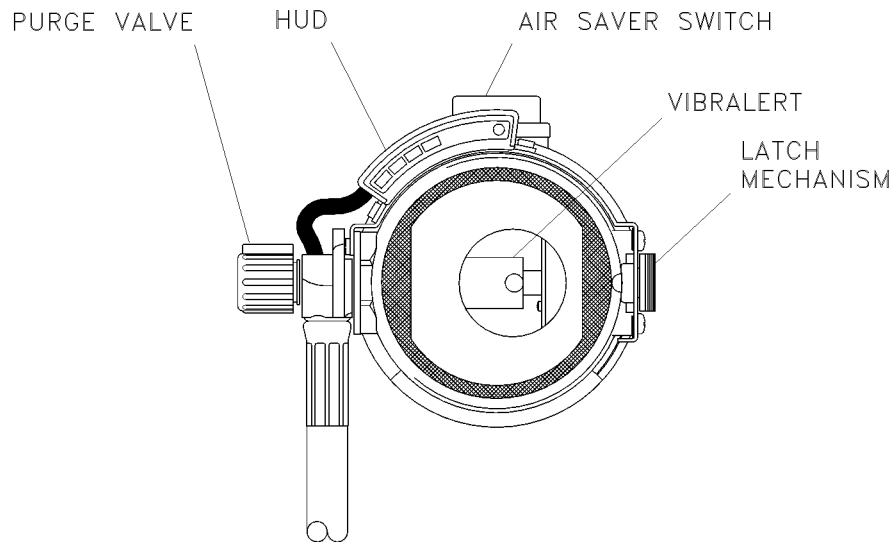

Figure 077-3-10. Mask-Mounted Regulator Components
7. Mask-Mounted Regulator. The mask-mounted regulator (Figure 077-3-10) is connected to a low-pressure hose threaded through the left shoulder strap of the harness assembly. The mask-mounted regulator maintains airflow into the facepiece at a pressure greater than atmospheric pressure and directs airflow over the inner surface of the lens for anti-fogging purposes. The mask-mounted regulator is constructed of corrosion-resistant materials and mates with a quick 1/4 turn to the facepiece. The mask-mounted regulator is available in two models. Both have a red purge valve, air saver switch, latch mechanism, and Vibralert®. Configuration 4 mask-mounted regulators are also equipped with a HUD.